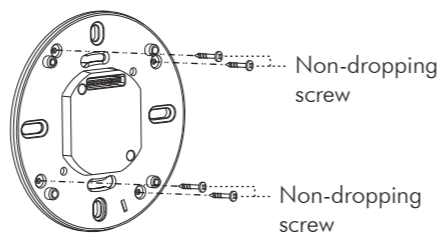

FIG.15
3.4.3.4 Insert 4pcs non-dropping screws to the corresponding screw holes on detector's fixing plate, and those 4pcs screws will not drop off to provide convenience to the subsequent installations (See FIG.15).